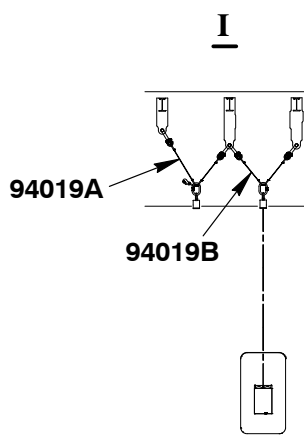

Fig. 23
- 19) Install the deviation pipe (94117A, Fig. 23) to the column.